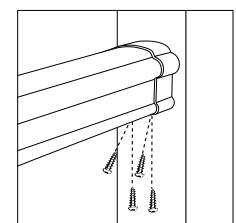

Figure 10
14. Install four screws through the bottom of the top rail brackets into the hand rail (Figure 10). Install the first two screws straight (90°) through the predrilled holes in bracket. Install the next two holes at 45° through the brackets, starting with the dimples on the bottom of the top rail bracket.